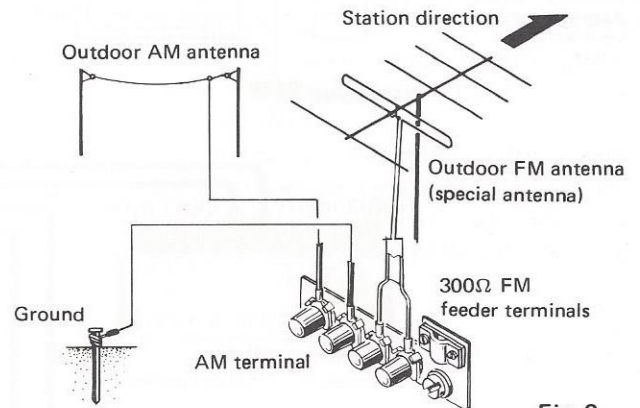

Fig. 3
- Connect antenna feeder wire to the 300Ω antenna terminals of the TX-7500 as shown in Fig. 3.
For optimum AM reception, an outdoor AM antenna using vinyl insulated wire can be erected as shown in Fig. 3.
For maximum safety and noise reduction, connect the GND terminal to an earth ground (Fig. 3).